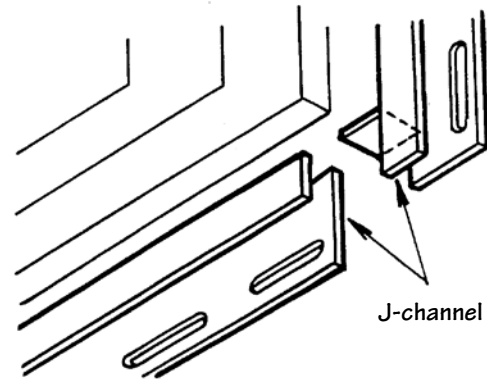

Figure 57.
- A miter cut and tab can be provided at the bottom of the window (Fig. 57), depending on the sill's condition.